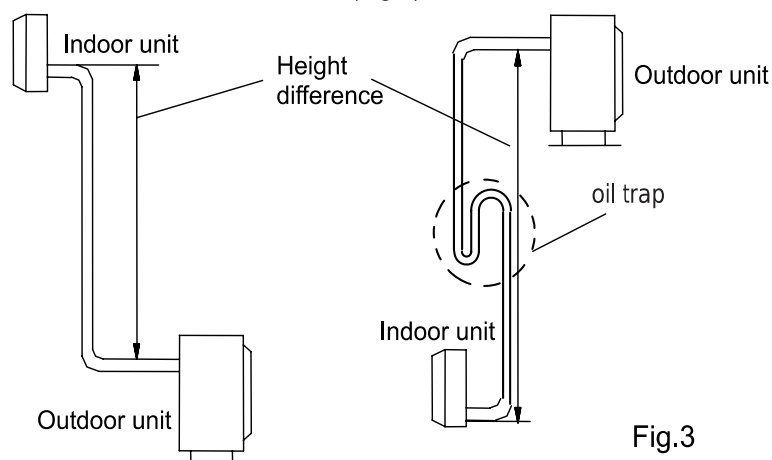

Fig.3
- If the installation position of the outdoor unit is higher than indoor unit and the tubing is longer than 10m, added a oil trap on the gas tubing for every 8m. (Fig.3)